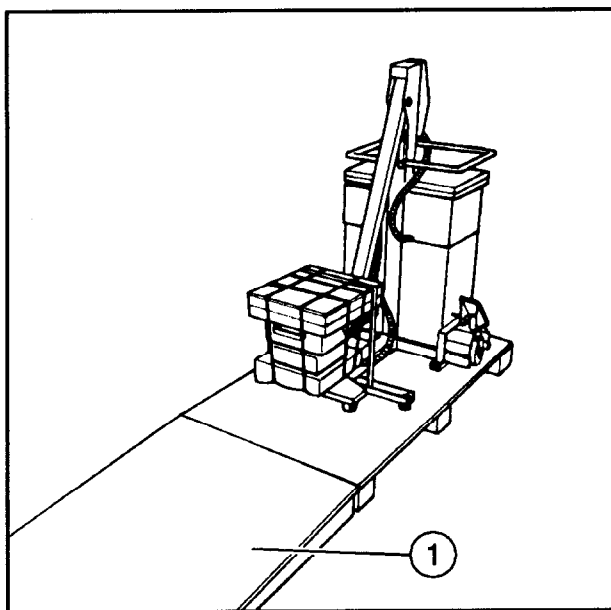

Fig. 1
- Place the side panel with the integrated ramp (1/ Fig. 1) down directly in front of the pallet and engage the retaining tabs.